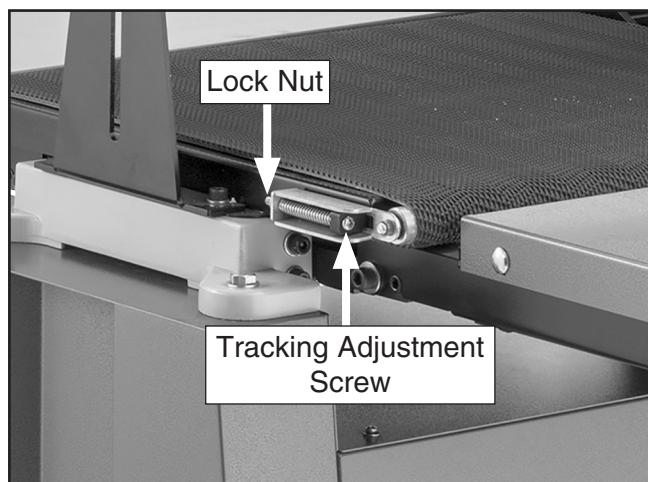

Figure 51. Conveyor belt tracking adjustment screw and lock nut.
2. Hold lock nut still on side that conveyor belt tracks towards and tension tracking adjustment screw until conveyor belt tracks in opposite direction (see **Figure 51**).